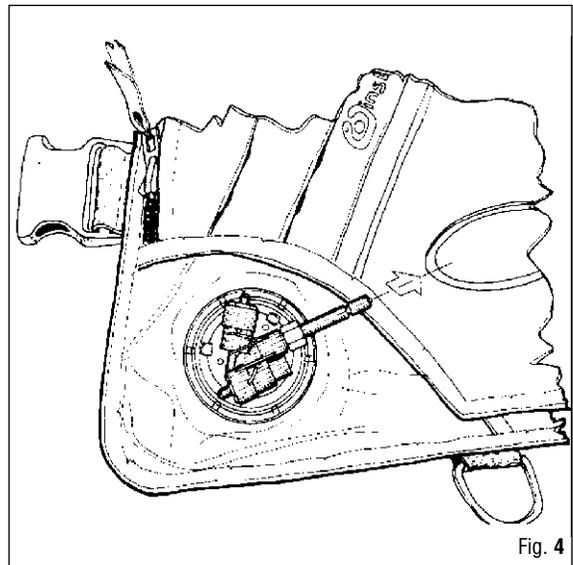

Fig. 4
THE INFLATOR BODY ASSEMBLY MUST BE ORIENTED WITH THE INFLATOR BODY COUPLING (1) POSITIONED AS NOTED AND RECORDED DURING DISASSEMBLY PROCEDURES. (Fig. 4).
54. Keeping the inflator body in this position, tighten the ring nut (11) snugly with the pin wrench (USAG type 282/58-62-65).